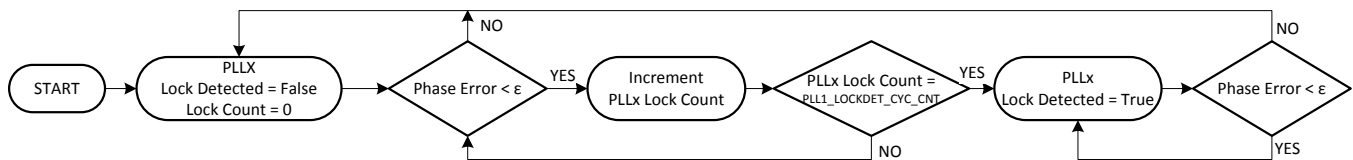

Figure 40. Digital Lock Detect Flowchart
(1) See Table 19 for reference.
Both PLL1 and PLL2 support digital lock detect. Digital lock detect compares the phase between the reference path (R) and the feedback path (N) of the PLL. When the time error (phase error) between the two signals is less than a specified window size (ϵ), a lock detect count increments. When the lock detect count reaches a user specified value, PLL1_LOCKDET_CYC_CNT or PLL2_LOCKDET_CYC_CNT, lock detect is asserted true. Once digital lock detect is true, a single phase comparison outside the specified window causes the digital lock detect to be asserted false; see Figure 40.